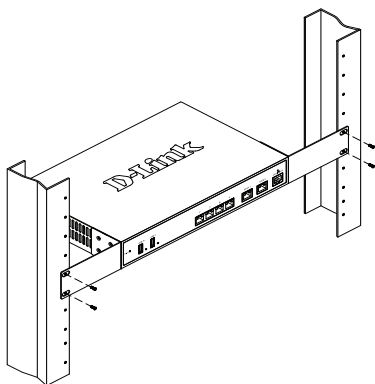

Figure 4. Install the Wireless Controller in a standard-sized equipment rack
- Then, use the screws provided with the equipment rack to mount the device in the rack as shown in Figure 4.